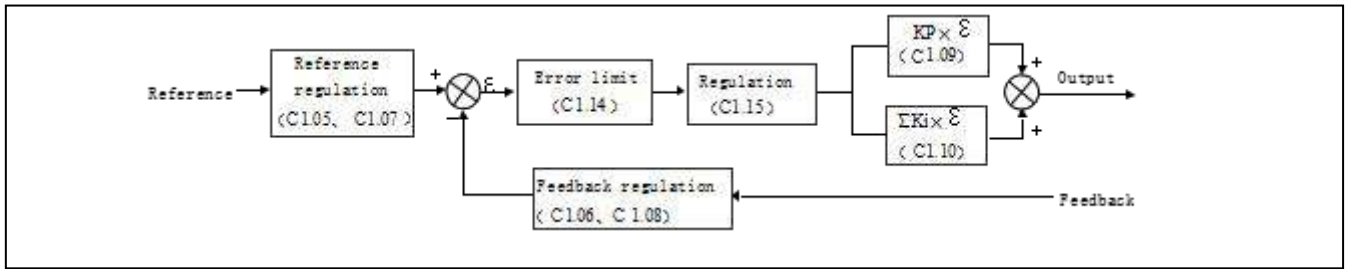
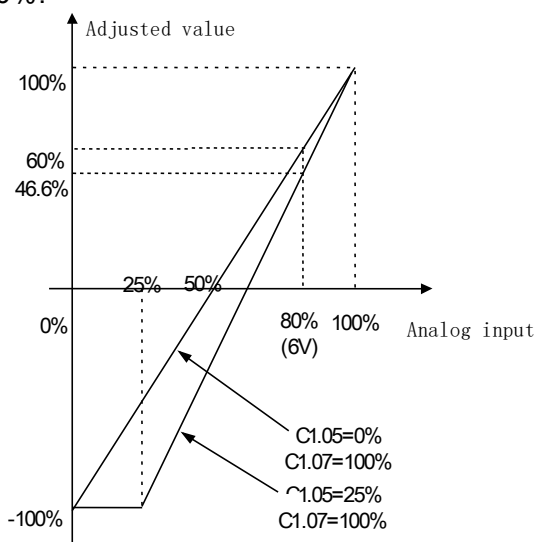

Fig.6-41 Principle diagram of process close-loop control
Fig.6-43 Regulation curve of reference
Operating principles of internal process close-loop of FV20 is shown in the Fig. 6-41
In Fig. 6-41, refer to C1.00~C1.14 for the definitions of close-loop reference, feedback, error limit and proportional and Integral parameters
The regulation relationship between C1.05,C1.07(in Fig.6-41) and reference is shown in Fig.6-43.When the analog input 6V,if C1.05 = 0 % and C1.07 = 100% , then adjusted value is 60 %.If C1.05 = 25 % and C1.07 = 100% , then the adjusted value is 46.6%.
- 1 . Fig.6-43,0% ~ 100% in X axis is corresponding to analog input - 10V ~ 10V,10V of analog input is corresponding to 100%,and - 10V is corresponding to 0%,6V is corresponding to 80%.
The regulation relationship between C1.06, C1.08 (in Fig.6-41) and feedback is similar to reference regulation. Its adjusted value can be observed in d0.25.